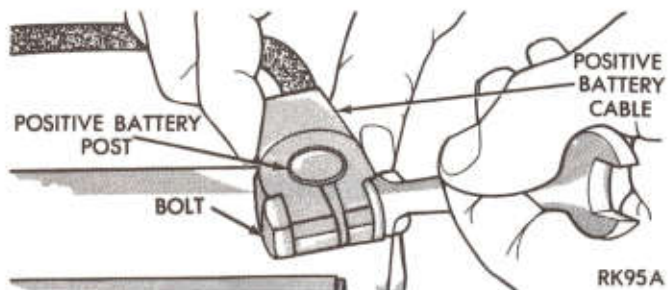

Fig. 6—Disconnecting Positive Battery Cable
(2) At battery, disconnect cable that connects to vehicle's starter (positive (+) cable) (Fig. 6).